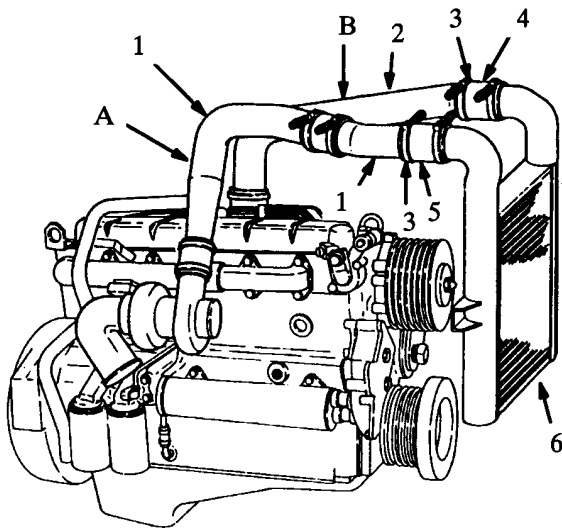

Figure 10 Typical Charge Air System
1. Disconnect the turbocharger exhaust piping (Item 1, Figure 10) from the charge air cooler hose (Item 5, Figure 10). Refer to the , CAUTION page 12.
1. Disconnect the engine air intake piping (Item 2, Figure 10) from the charge air cooler hose (Item 4). Refer to the CAUTION page 14.